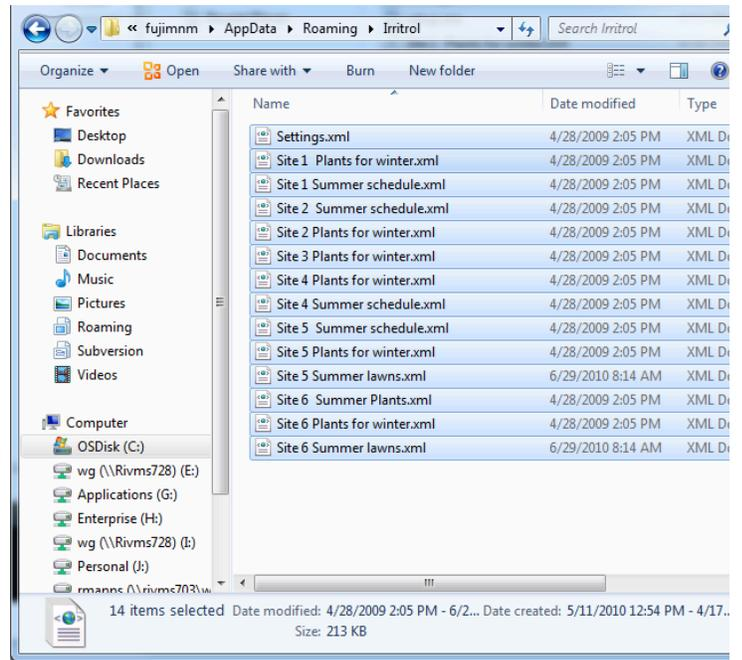

Figure A3.3
4. Sweep all files in that window with your mouse (Figure A3.3), copy (Ctrl-C), then paste (Ctrl-V) them into a thumb drive window.